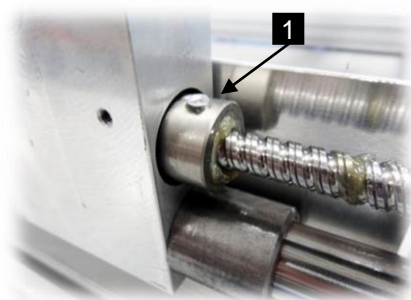

Figure 35: X-axis ball screw
- 4 Set grease gun with light bearing grease to the grease hole in the ball nut X-axis (Fig. 35/1).